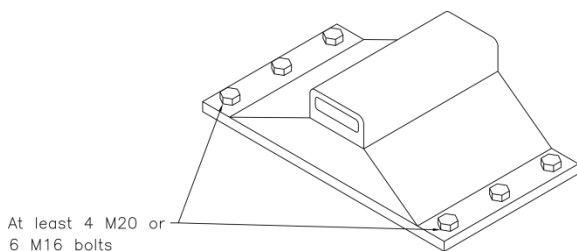

Figure 20: Minimal fifth wheel bolting
- If bolted, use at least four M20 (3/4") or six M16 (5/8") bolts of at least ISO Grade 8.8 (SAE Class 5) per fifth wheel pedestal (see Figure 20).